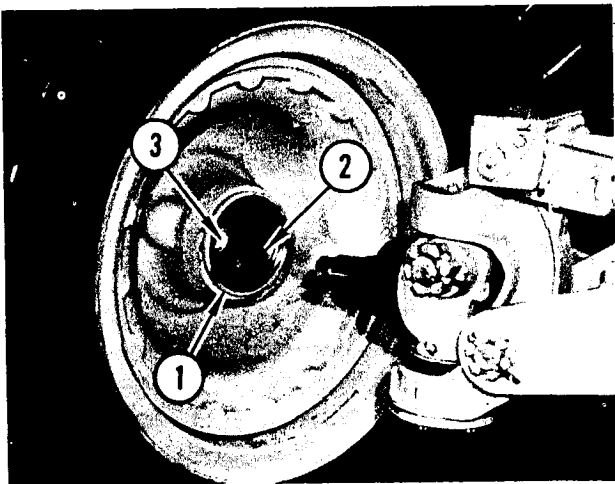

FIGURE 2. WHEEL REMOVAL
Refer to Figure 2. Remove wheel from spindle. Remove felt seal retainer (1) from wheel hub. Remove inner bearing cup (2) and outer bearing cup (3) from hub. If required, remove outer bearing retainer snap ring from hub.